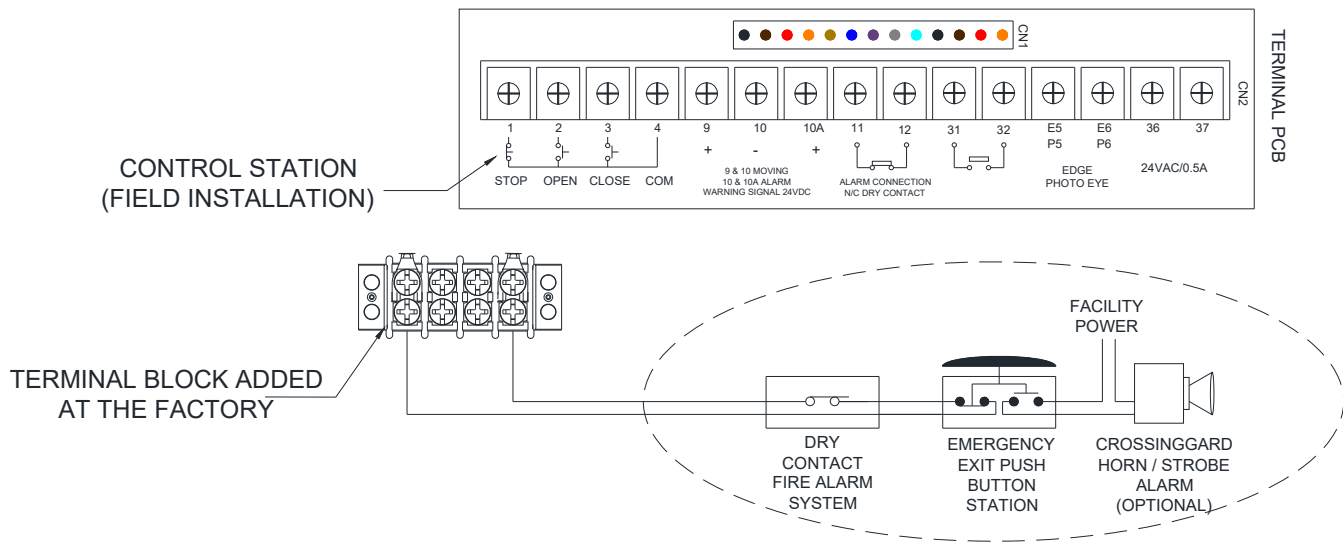

Figure 7.1
5. Install controls and wire the operator. Refer to Figure 7.1 and wiring diagram provided with the operator for proper connections and voltages. The controls should be installed in an area from which the door/opening is clearly visible. This will allow an individual operating the unit to make a visual inspection of the opening for any obstacles or other potential hazards before setting the door into motion.